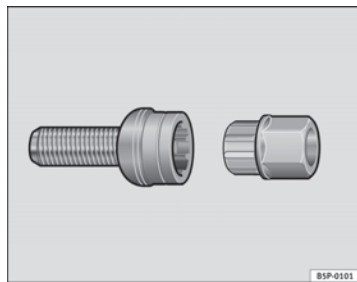

Fig. 160 Anti-theft wheel bolt
- Insert the adaptor onto the wheel bolt and push it on as far as it will go ⇒ fig. 160.